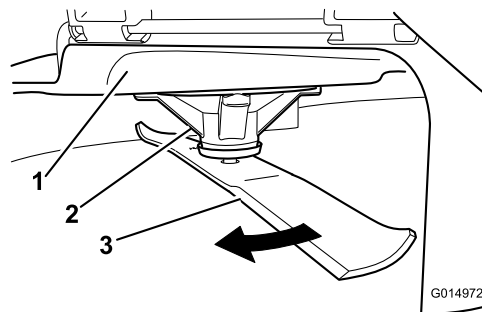

Figure 52
2. While wearing thickly padded gloves, or other adequate hand protection, slowly rotate the blade into a position that allows you to measure the distance between the cutting edge and the level surface the machine is on (Figure 52).